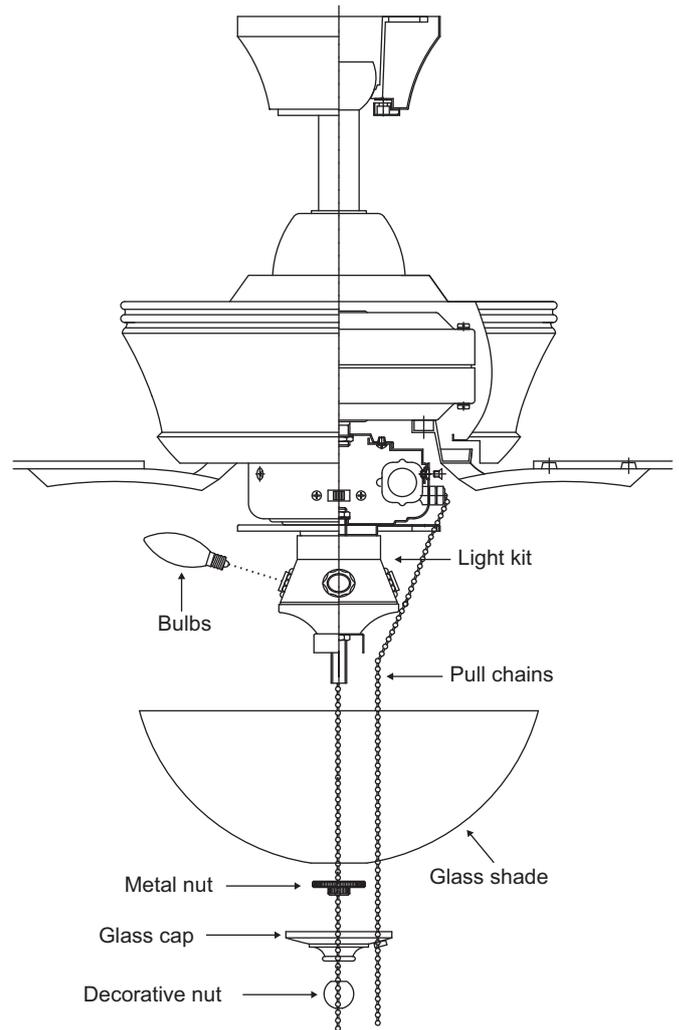

Figure 15
2. Insert the fan pull chain through the eyelet in the shade and cap. Also insert the light kit pull chain through the shade and cap. (Fig. 15)
3. Remove the metal nut, glass cap and decorative nut from the light kit. Place glass shade over the light kit stem, secure with the metal nut (rubber side on the top), glass cap and decorative nut. Do not overtighten. (Fig. 15)